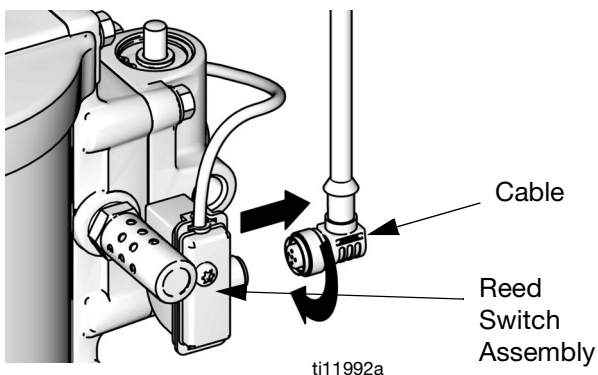

FIG. 6. Disconnect DataTrak
1. Unscrew cable from the back of the reed switch assembly. See FIG. 6.